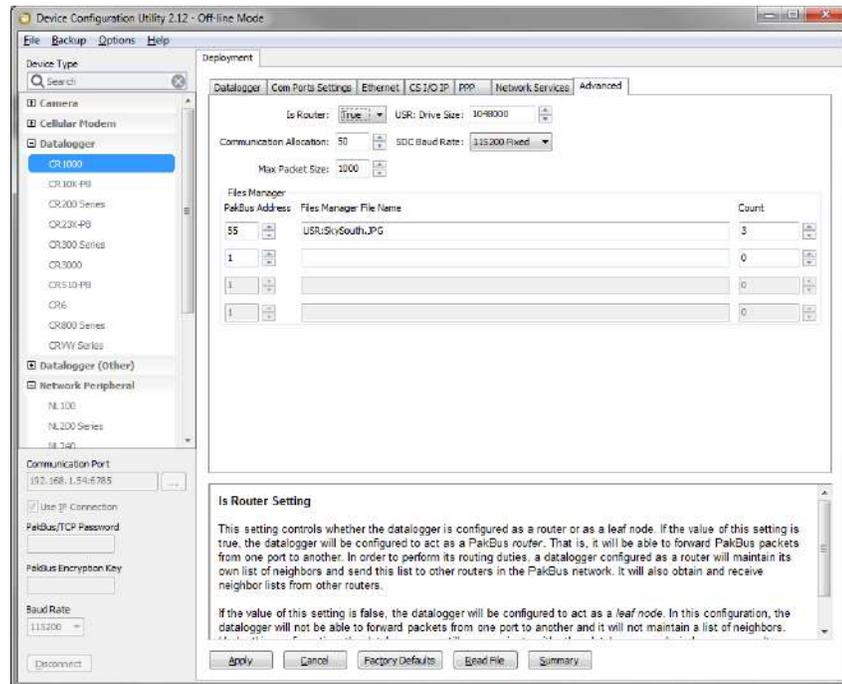

Figure 18.1 Datalogger Files Manager
- DDD – destination drive on the datalogger. USR for the user drive. In figure 18.1 this value is *USR*. CRD for the compact flash memory card.
- NAME – any name string that will be used to name the files. In Figure 18.1 this value is *SkySouth*. The file name will automatically produce an incrementing number. For example, the first file will be named *SkySouth1.jpg*. Entering a zero for this parameter will disable the automatic numbering and produce a fixed file name. In this example, the *Files Manager File Name* would be *USR:0.JPG*.
- EXT – the file extension of the incoming file must match. In the case of the camera, this must always be either *jpg* or *avi*. In Figure 18.1 this value is *JPG*.